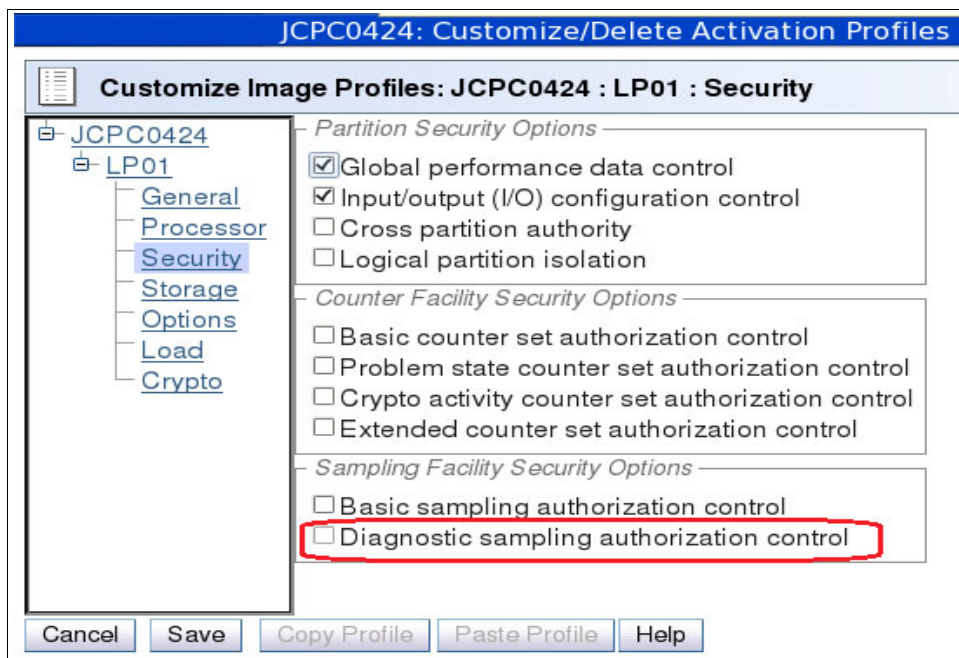

Figure 11-1 Diagnostic sampling authorization control
- ▶ New option for CPUMF Diagnostic Sampling Collection. Can only be selected if Basic sampling is selected as shown in Figure 11-1.